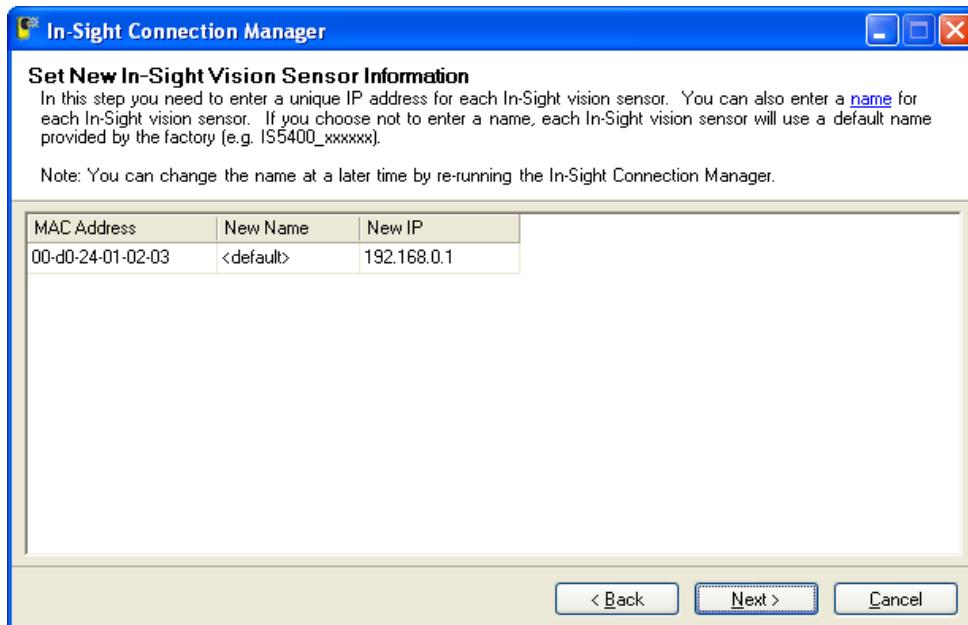

Figure 4-5: Set New In-Sight Vision Sensor Information Dialog
13. For each sensor in the table (Figure 4-5), enter a unique IP address in the New IP column. Optionally, you can type in meaningful names for each sensor under the New Name column.